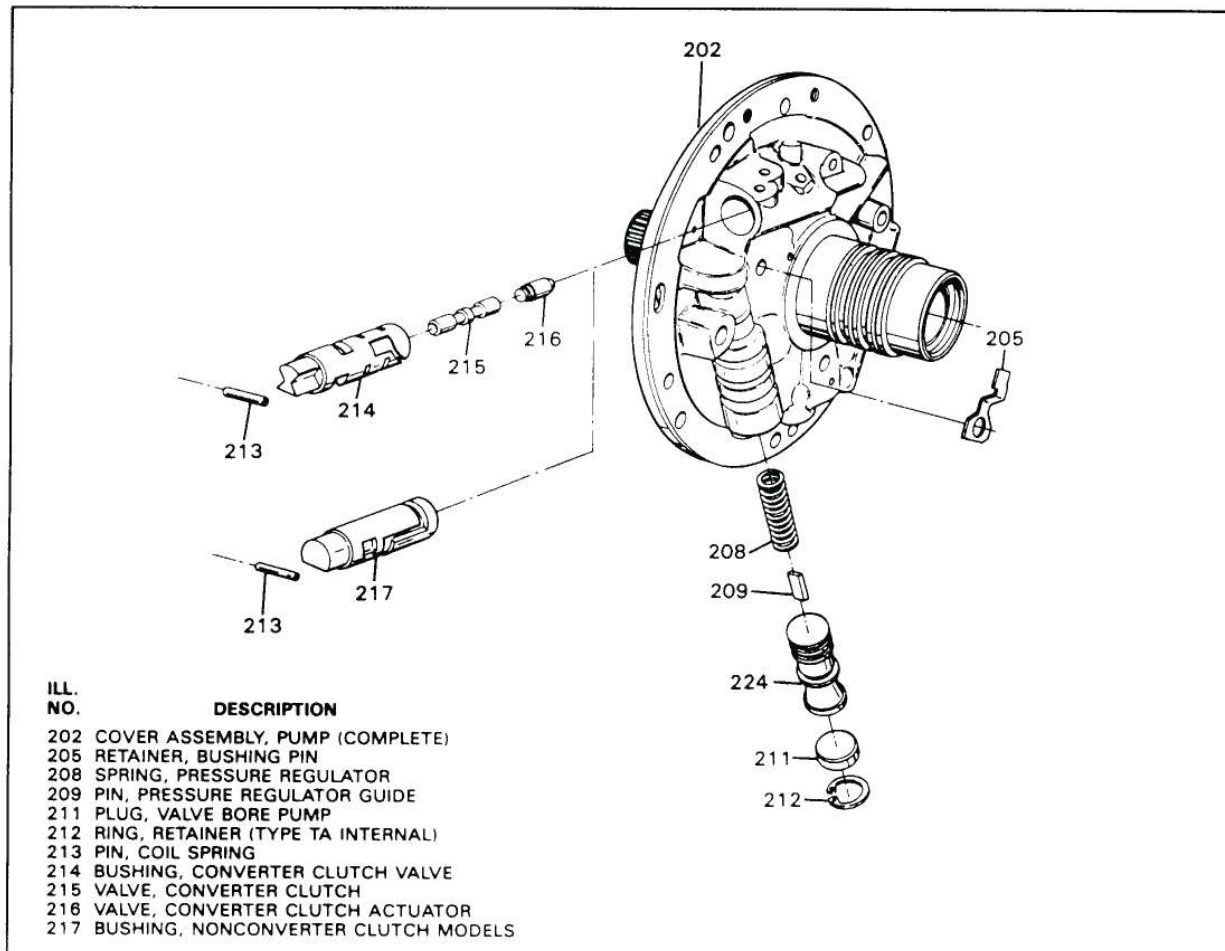

Figure 102
20. Install pressure regulator spring into the bore in pump cover, guide inside of the spring, pressure regulator valve with stem end facing out, and the bore plug hole side out as shown in Figure 102.
21. Compress the assembly and install the snap ring with the flat side facing out (See Figure 102).
22. Install the TCC actuator valve into the bore in the pump cover, as shown in Figure 102.
23. Install the TCC apply valve into the bushing and install the entire assembly into the pump cover as shown in Figure 102.
24. Install the roll pin (213) into pump cover, shown in Figure 102, and bend the retainer back down to retain the roll pin.